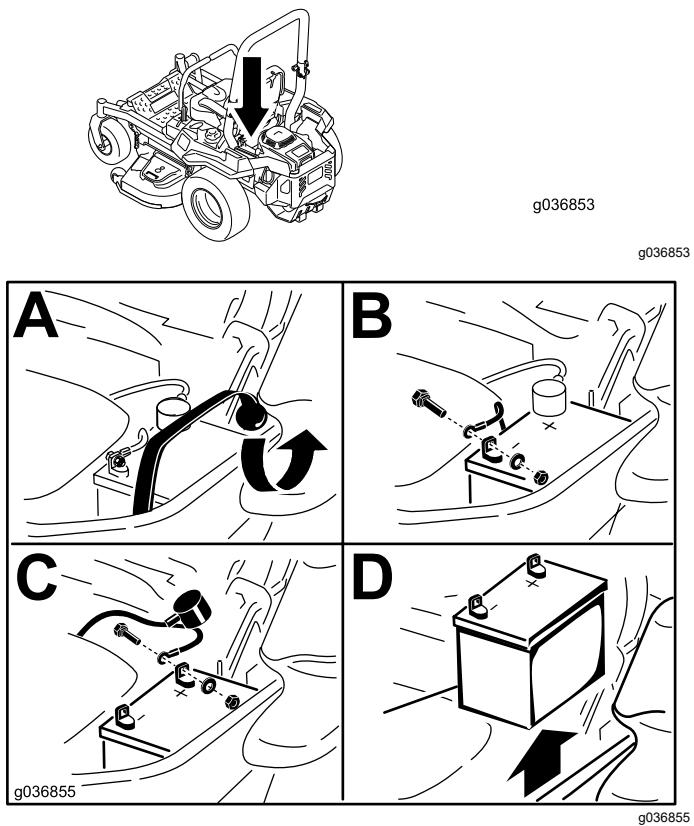

Figure 50
3. Remove the battery as shown in Figure 50.
1. Position the battery in the tray with the terminal posts opposite from the hydraulic tank (Figure 50).
4. Secure the cables with 2 bolts, 2 washers, and 2 locknuts (Figure 50).
6. Secure the battery with the rubber strap (Figure 50).